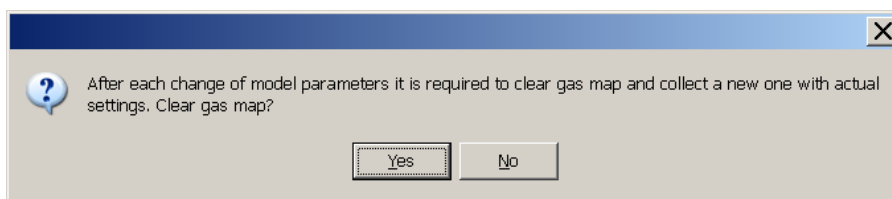

Figure 3.43: Deleting the gas map after changing the model
- 10) Then the program will monitor about the necessity of deleting the gas map after each change of the model. (figure 3.43) Clear old gas map by pressing “Yes” and collect it again to check if modified model is correct. Do not clear petrol map.